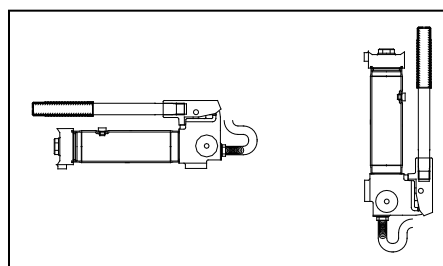

Figure 8 - Horizontal and Vertical Position
3. Pump may be used in horizontal and vertical position as illustrated on Figure 8.